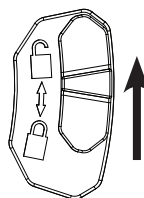

Figure 1
1. Move storage lock to the unlocked position as shown Figure 1.
1. Place front housing (*fig. 1, component 1*) facing down on a flat, stable surface.
2. Remove the 4 screws (*fig. 1, component 7*) and rear housing (*fig. 1, component 2*).